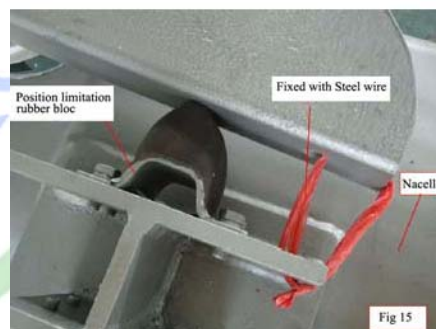

Fig 16
6.2.6 Turbine Assembly: (Fig 16)